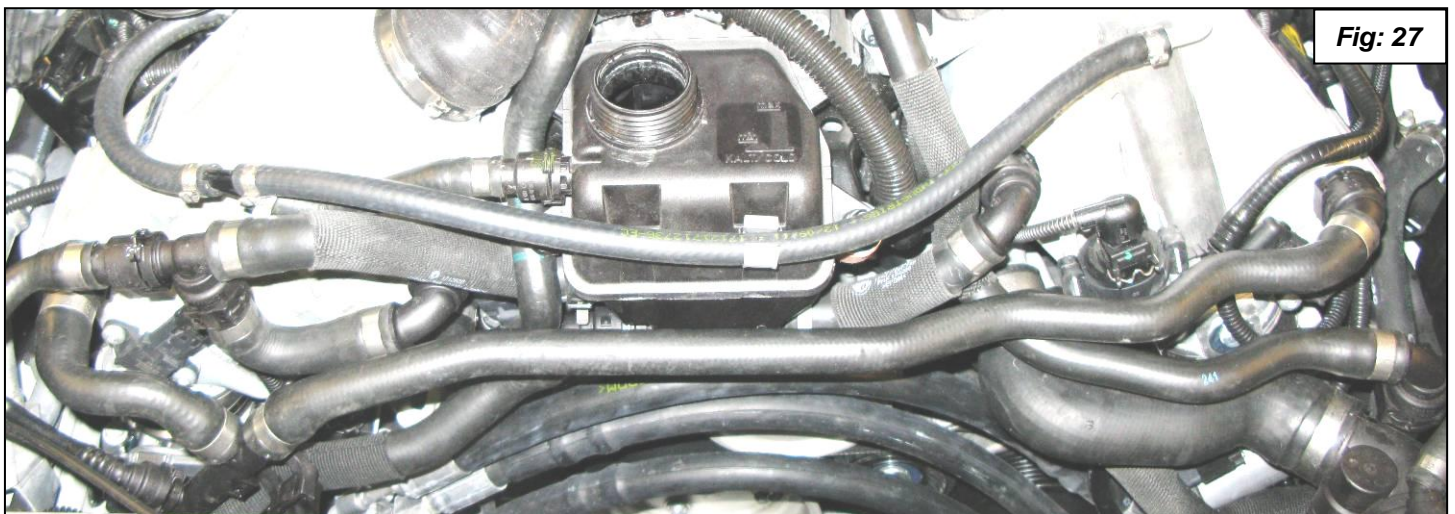

Fig: 27
24. Connect the two hoses from the pump to the outer nipples on the intercoolers as shown in figure 27.